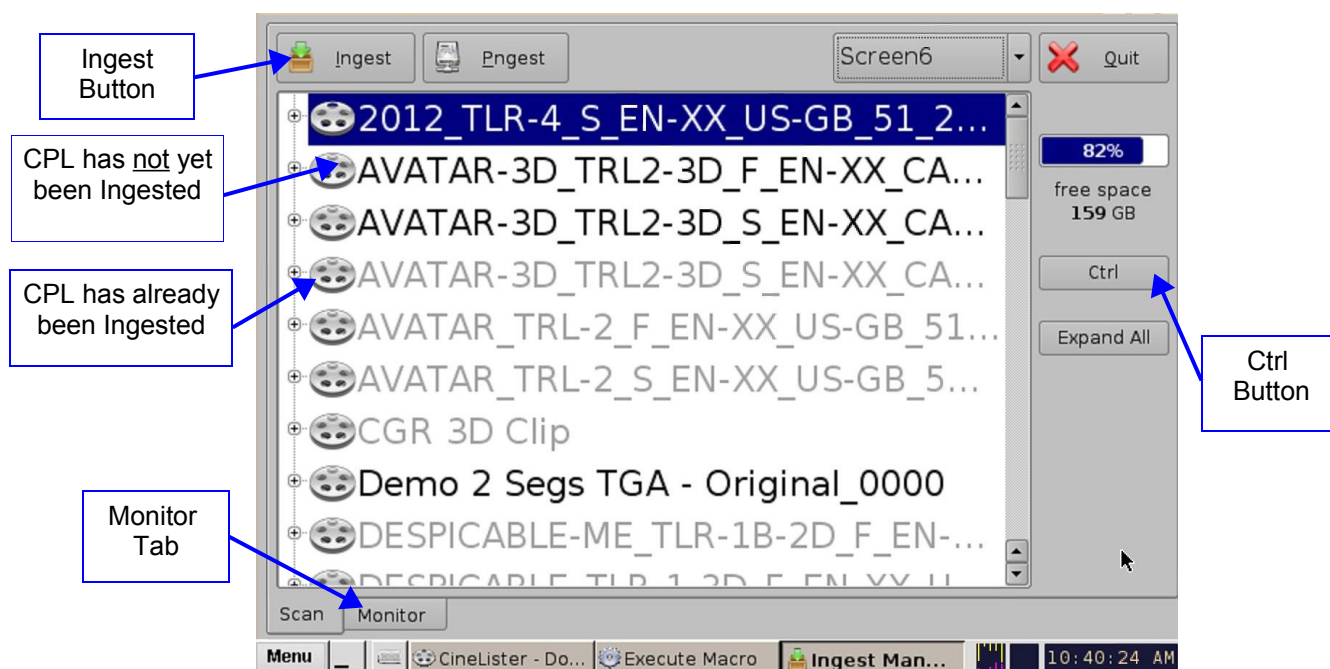

Figure 150: Ingest Manager GUI
If the content to ingest is on a USB drive, plug the drive into the DCP-2000's USB Port and wait for the Ingest Manager window to appear (Figure 150).
- If an item was already ingested, it will appear in gray as illustrated in Figure 150.
- Select multiple items by clicking the Ctrl button (Figure 150) and then clicking on the Ingest button.